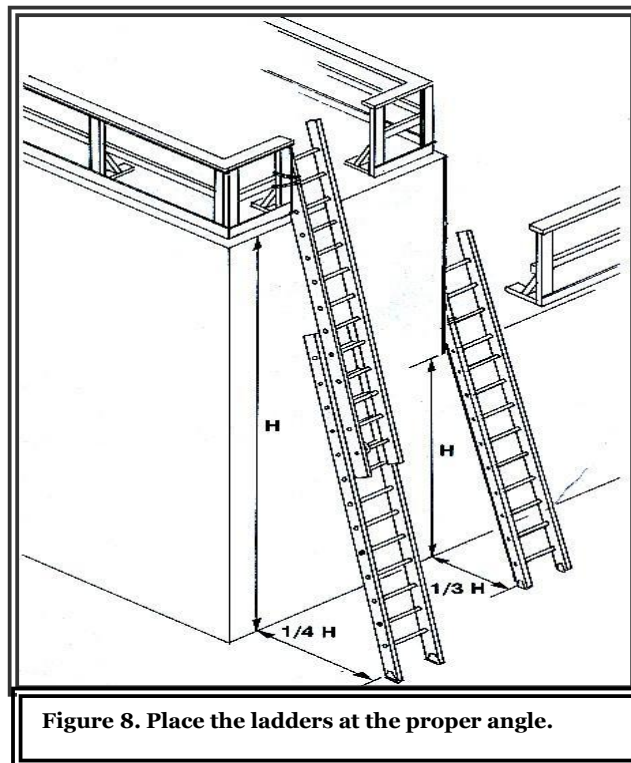

Figure 8. Place the ladders at the proper angle.
- Place ladders at the proper angle (1 foot out from the base for every 4 feet of vertical rise, Figure 8).